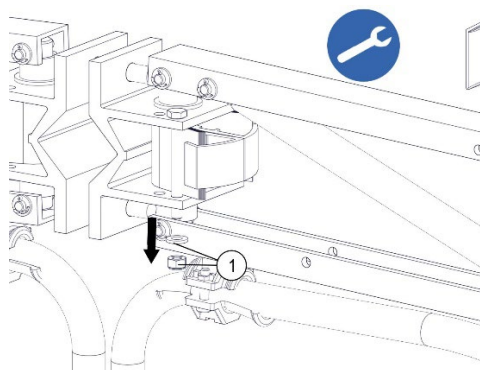

Fig. 2: Loosen the hexagon nut with washer (Pos. 1)
- Loosen the hexagon nut with an open-end wrench (size 17). Remove hexagon nut and washer (Pos. 1, see Fig. 2).